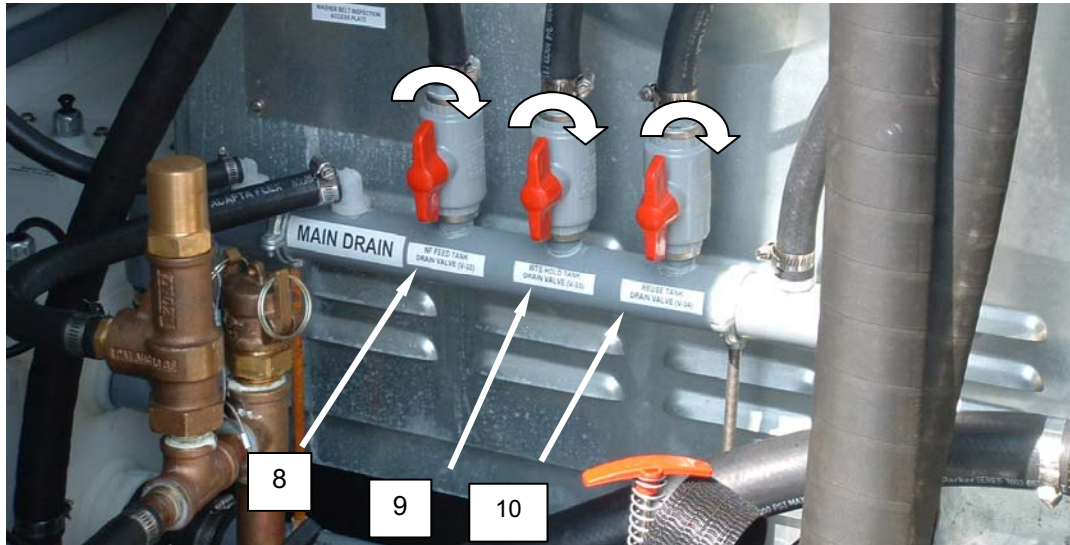

Figure 6. Drain Valves.
2. Close the tank drain valves V-32 (Figure 6, Item 8), V-33 (Figure 6, Item 9), and V-34 (Figure 6, Item 10).
3. Close the pump drain valves V-53 (Figure 6, Item 11) and V-54 (Figure 6, Item 12).